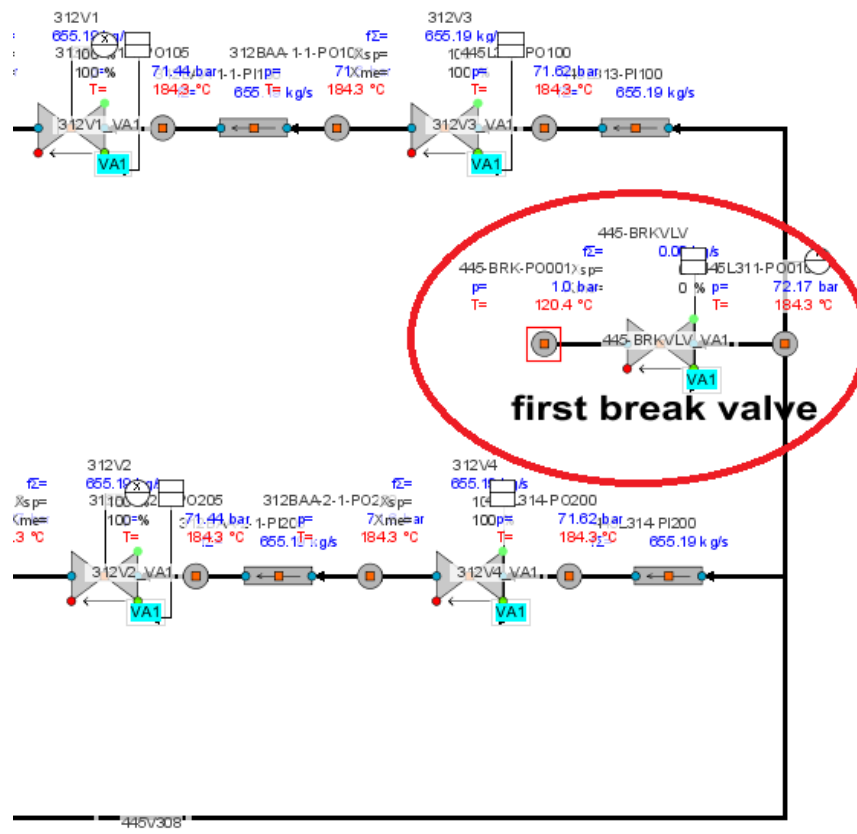

Figure 8. Location of feed water break valve outside the containment
9. A ready-made break location is modeled in net “312_feed”. The break valve is located in the feed water line outside of the containment (see Figure 8).